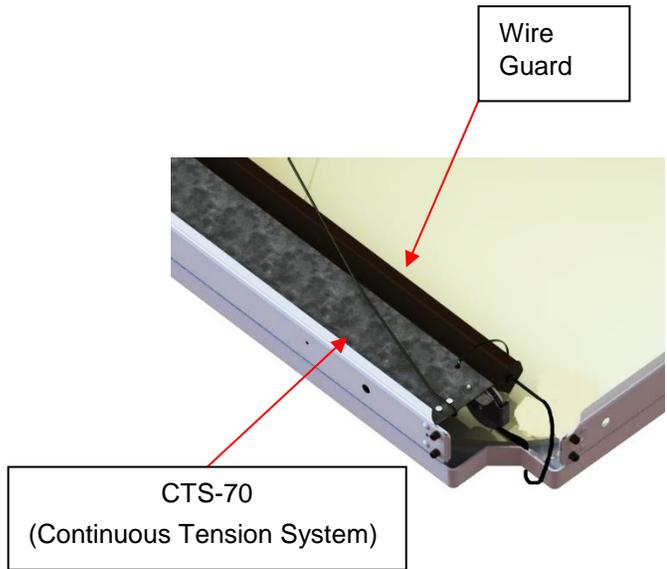
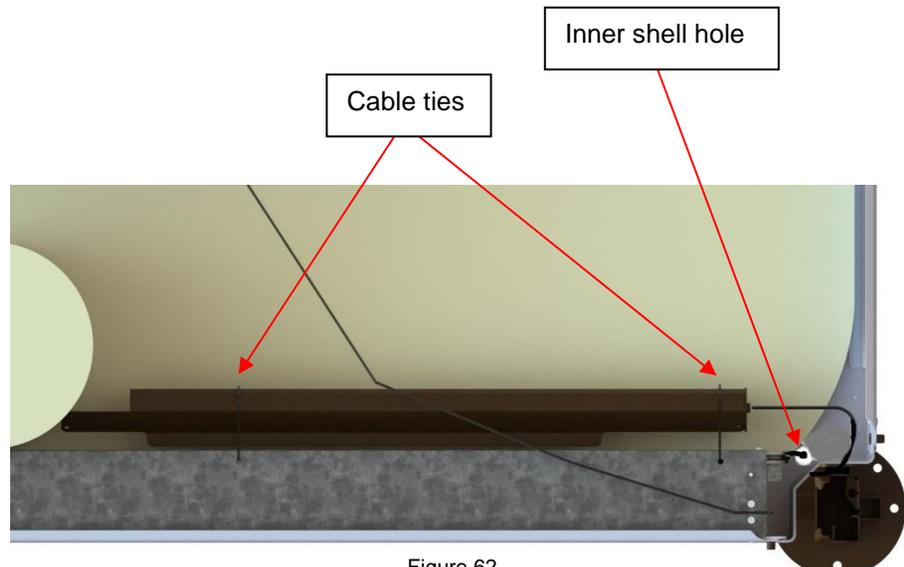

Figure 61
Figure 62
- 4) While holding the outer shell open, cut and remove the two cable ties that hold the wire guard. (Figure 61 and Figure 62)
- ◆ Ensure the wire is clear of the inner and outer shells before proceeding. The wire should only hang from the inner shell hole. (Figure 62)